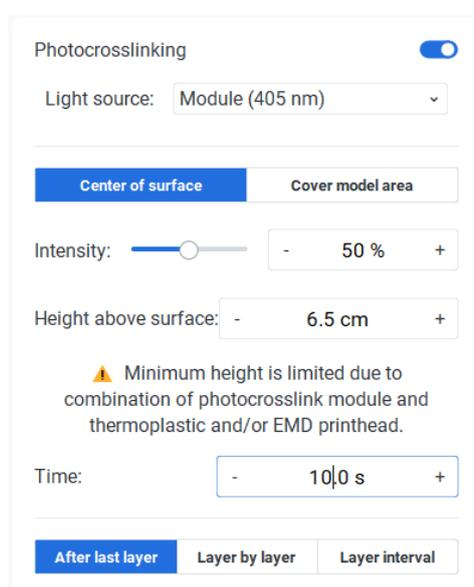

Figure 15 Configuration of photocrosslinking parameters in the DNA Studio Software.
1. **Configure parameters in DNA Studio:** In the photocrosslinking panel, define the curing parameters as follows (**Figure 15; Table 2**):